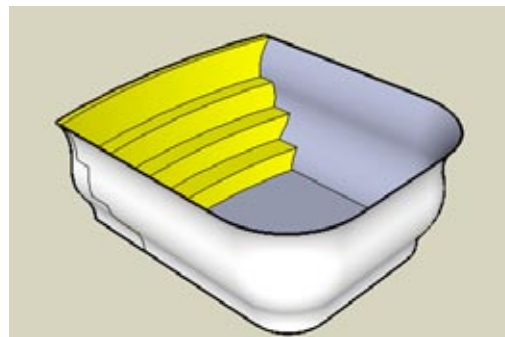

Figure 4-69
- Run Intersect with Model on the entire model, and trim the walls and steps that extend past each other (Figure 4-69). Because the paths for these objects were extended, trimming is easy.